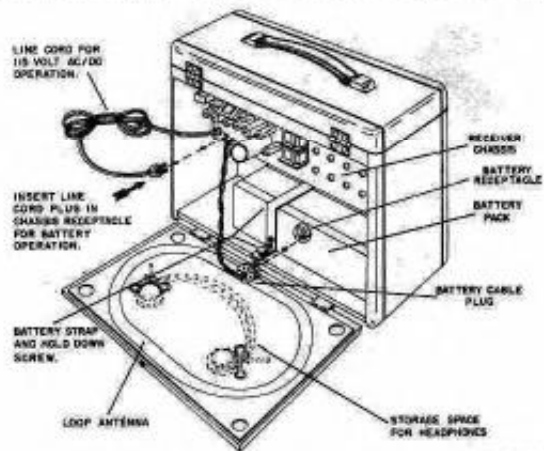

FIG. 2 REAR VIEW, REAR DOOR OPEN
1. Select one of the 90 volt -  $7\frac{1}{2}$  volt battery packs listed on page 4. Refer to Fig. 2 for an illustration of the battery installation.
3. Storage space for the headphones is provided on the rear door of the cabinet. See Fig. 2.